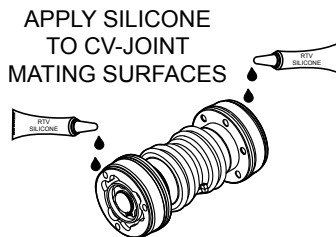

Figure 14. Applying RTV Silicone
1. Apply a thin coat of RTV silicone (Figure 14) to mating surfaces of CV axle assembly